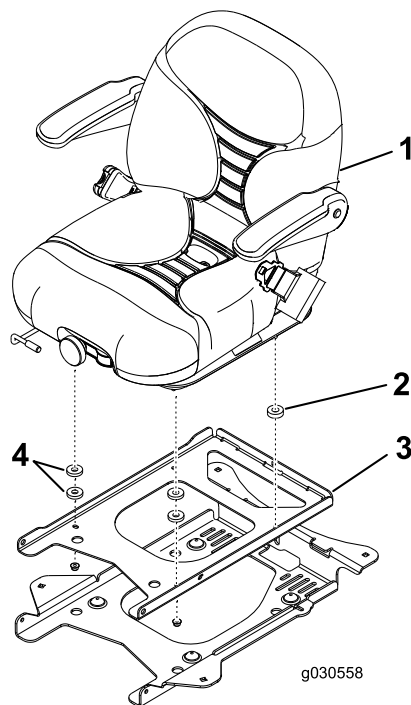

Figure 14
2. For deluxe seats only, install the spacers as shown in Figure 14.